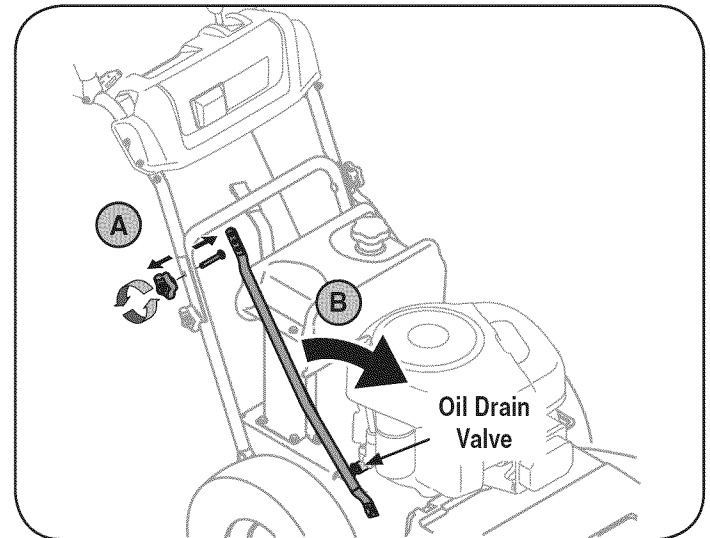

Figure 12
- a. Remove the upper star knob and carriage screw on the right side of the handle, Figure 12.
- b. Pivot the brace tube towards the front of the mower to allow room to connect the oil drain hose to the oil drain valve, Figure 12.